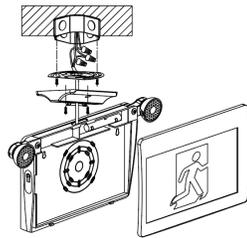

Fig. 8
- a) Pull wires through junction box mounting plate then connect junction box mounting plate to the junction box with screws (Fig. 8).